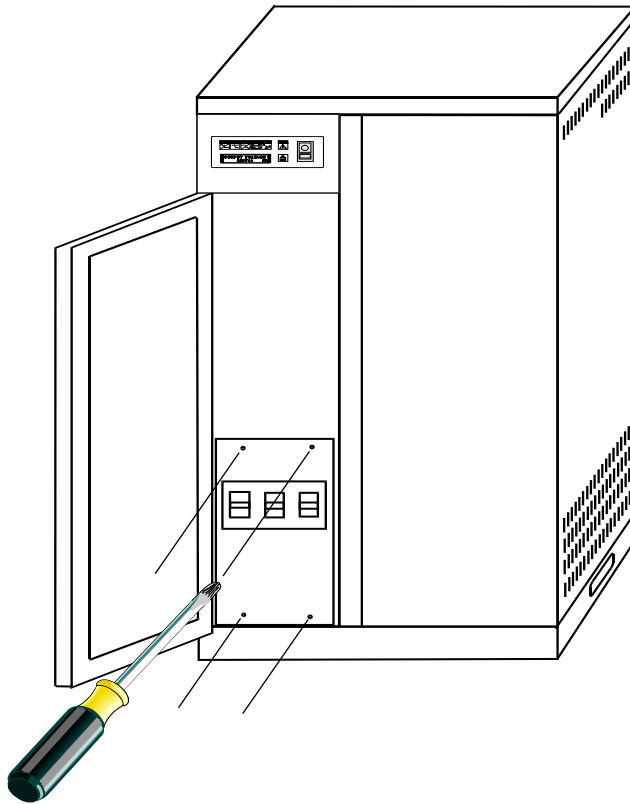

Figure 12
1. First, detach 4pcs screws on the rear panel with a screwdriver to find the terminal block. (Fig.12,13)